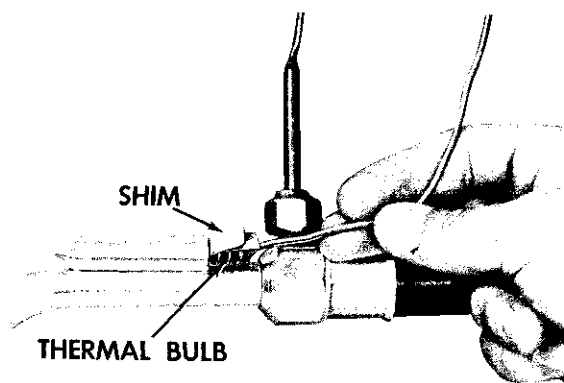

Fig. 44—Thermal Bulb Installed Typical
- (3) Remove the grommet retainer and the rubber grommet from the evaporator engine-side housing. Carefully pull the thermal bulb (Fig. 44) and the thermal bulb wedging shims from the well located inside the evaporator housing.